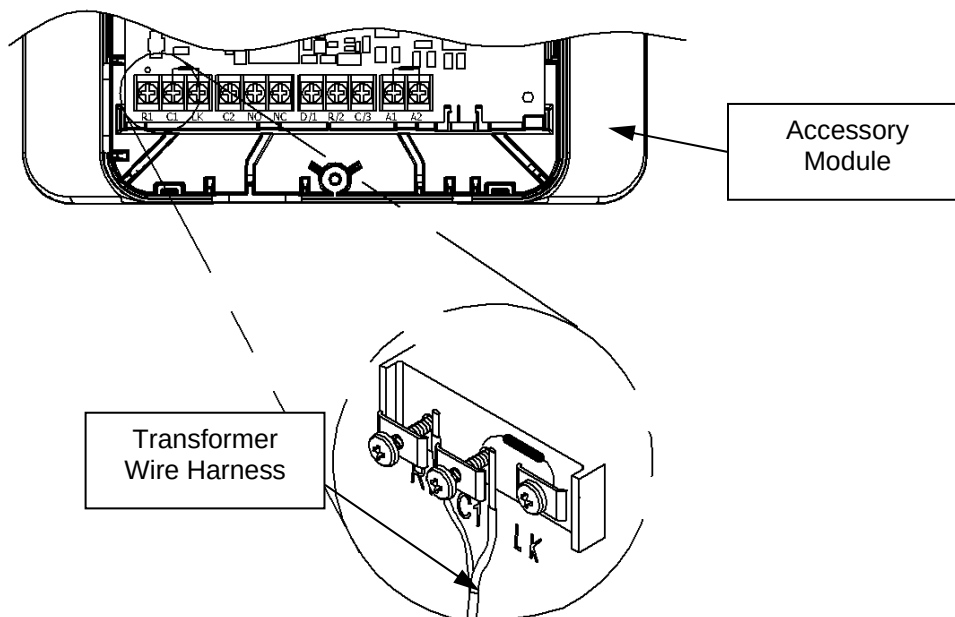

Figure 16
Step 16: Insert each wire stripped end of the Transformer wire harness under the screws labeled “R1” and “C1.” This is shown in Figure 16.